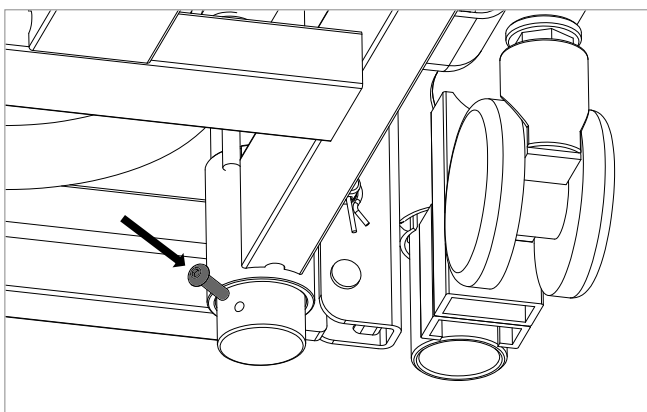

Figure 6.5
4. Fit the M5 x 20mm screw to the threaded hole of the lifting pole as shown in Figure 6.5 and tighten with a 4mm Allen key.